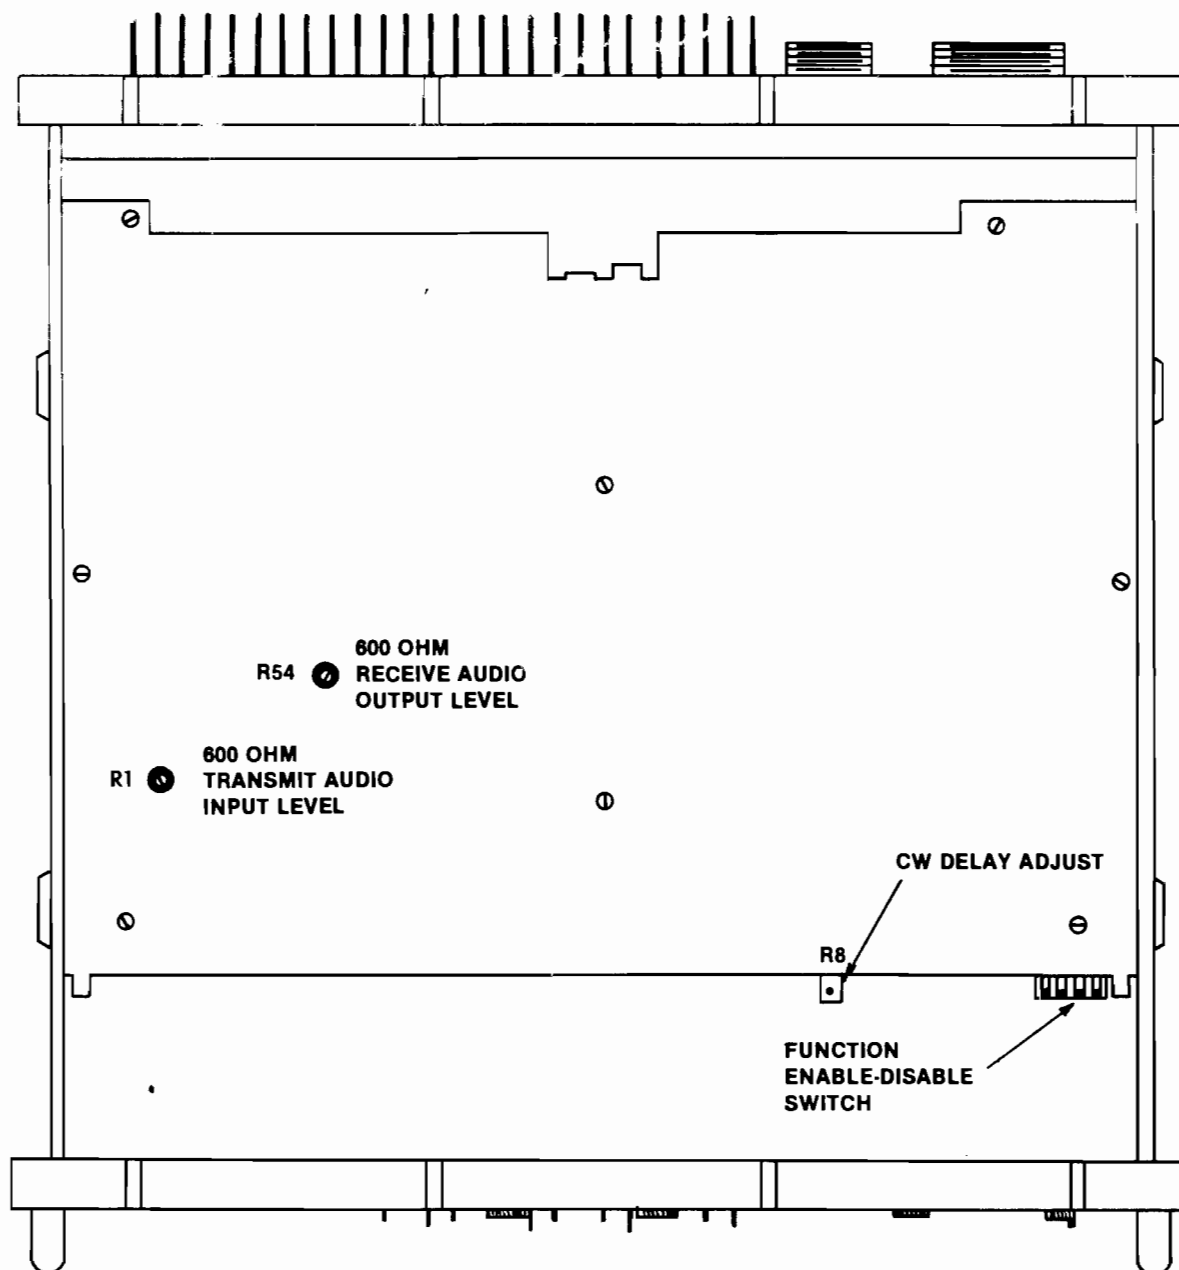

Figure 3.3 Internal Controls Locations
The transceiver is equipped with several internal controls as a convenience which the operator may wish to adjust. They are: function enable/disable switch, CW delay adjust, 600 ohm remote transmit audio input adjust and the 600 ohm receive audio output level adjust. See Figure 3.3 for the location of these controls.
- a) Place the OPERATE/LOAD MEMORY switch in the LOAD MEMORY position. See that the LOAD MEMORY LED lights. If it does not, the PROGRAM ENABLE switch is off. Remove the top cover and switch PROGRAM ENABLE ON (See Figure 3.3).
- g) If the TUNING BEEP TONE switch is on (see Figure 3.3), note that the volume of the beep can be set with the VOLUME control.